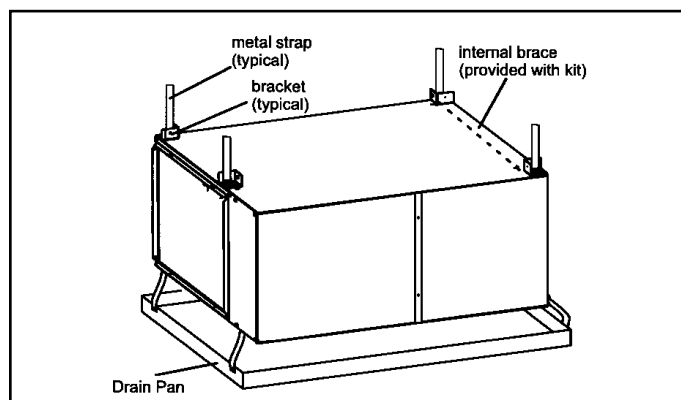
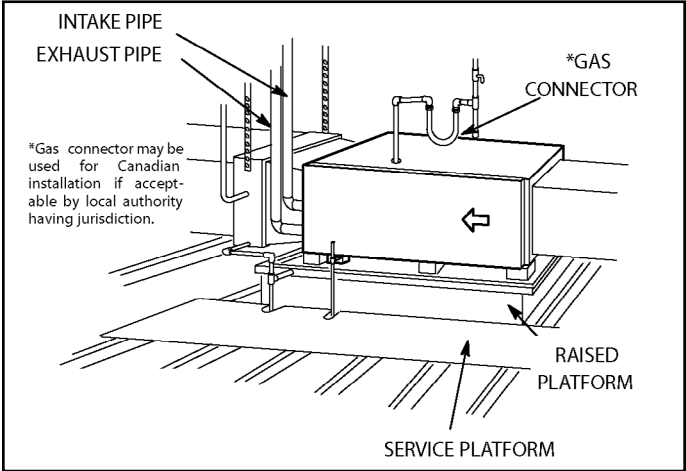

Figure 19. Typical Horizontal Application
Figure 20.
This furnace may be installed in either an attic or a crawl space. Either suspend the furnace from roof rafters or floor joists, as shown in Figure 19, or install the furnace on a platform, as shown in Figure 20. A horizontal suspension kit (51W10) may be ordered from your distributor or use equivalent.
2. Construct a raised wooden frame and cover frame with a plywood sheet. If unit is installed above finished space, fabricate an auxiliary drain pan to be installed under unit. Set unit in drain pan as shown in Figure 20. Leave 8 inches for service clearance below unit for condensate trap.